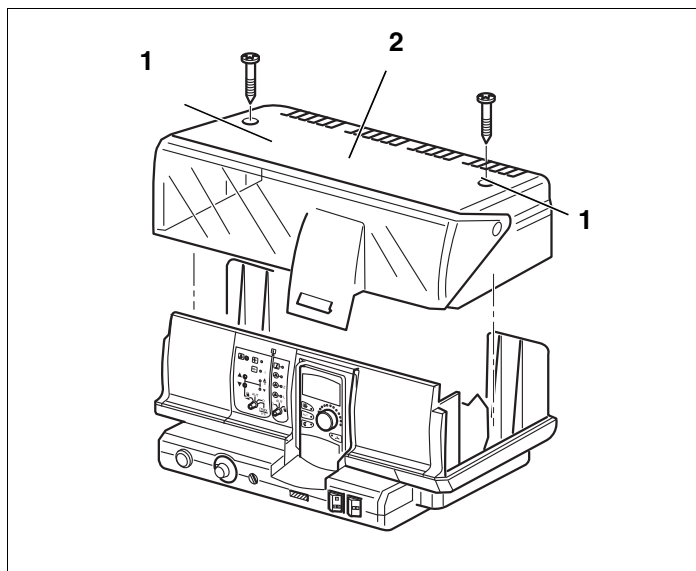

Fig 14 Removing covers
- Unscrew both screws on the upper side of the appliance (→ Fig. 14, [1]).
- Lift terminal cover (→ Fig. 14, [2]).